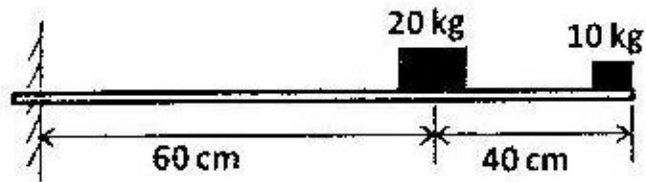

Figure 15(a)
15. (a) Using Rayleigh's method find the fundamental frequency of a uniform cantilever beam with two additional masses as shown in Figure 15(a). Mass density of the beam is  $m/L$  per unit length and bending rigidity =  $EI$ .